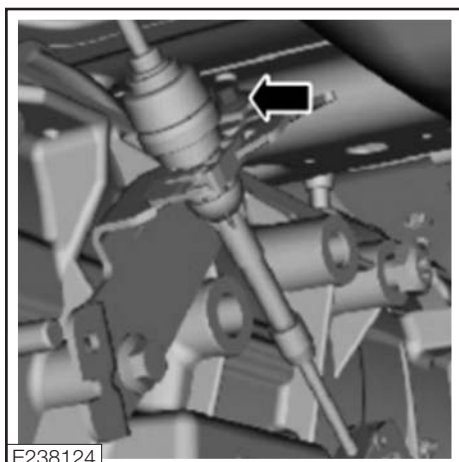

Figure 98
3. Install the selector lever retainer bolt. Torque to 62 lb-in [7 N-m] (Fig. 98).